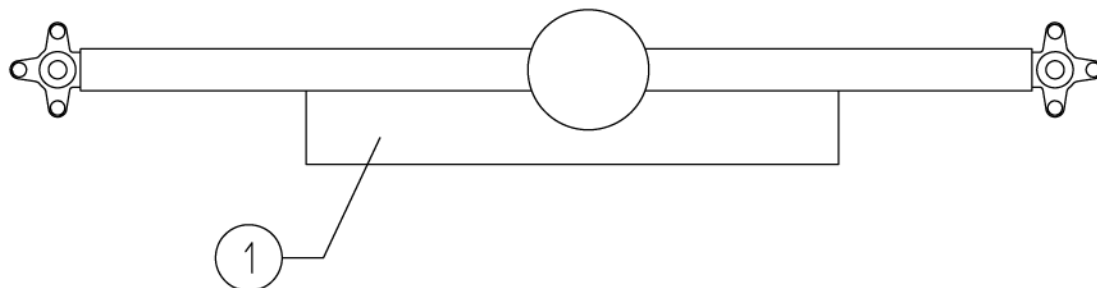

Figure 4
3. Check with a ruler if the blades are in line as shown in Figure 4. Adjust if necessary. Tighten the bolts.